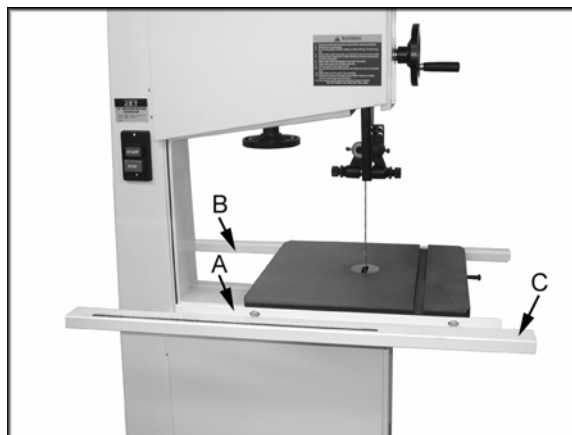

Figure 8
1. Attach the front rail (A, Fig. 8) to the cast iron table with two 1/4" x 5/8" hex cap bolts, two 1/4" lock washers, and two 1/4" flat washers. Bolts should be in approximately the center of the slot. Hand tighten only at this time.
2. Attach the rear rail (B, Fig. 8) to the table with two 1/4" x 5/8" hex cap bolts, two 1/4" lock washers, and two 1/4" flat washers. Bolts should be in approximately the center of the slot. Hand tighten only at this time.
5. Attach the guide tube (C, Fig. 8) to the front rail with five 1/4" x 5/8" hex cap bolts, five 1/4" lock washers, and five 1/4" flat washers. Bolts should be in approximately the center of the slot.